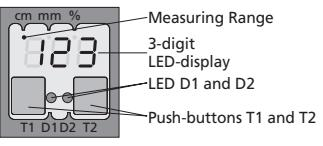

Fig. 3:
- Set the parameters of the sensor manually via TouchControl (see Fig. 3 and Diagram 1)